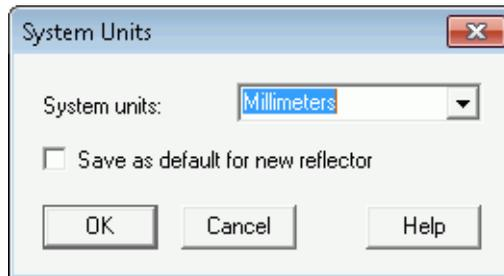

Figure 1.5 Setting system units
- Click **OK** to accept the default units, **Millimeters**, as shown in Figure 1.5.